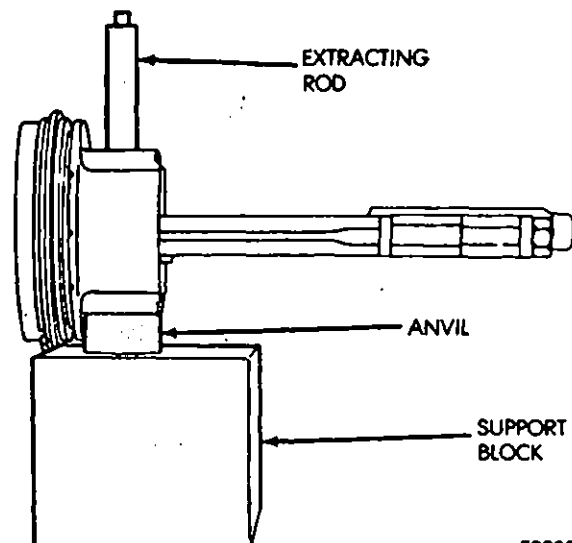

Fig. 6—Support Block/Anvil
(3) Turn the piston support block so that it rests on the "V" section. Place the anvil into the top of the support.
(4) Position the piston over anvil and pilot the bottom edge of the pin into the anvil to center the piston (Fig. 6). Install extracting rod into the top of the piston. Press the piston pin out of the connecting rod.